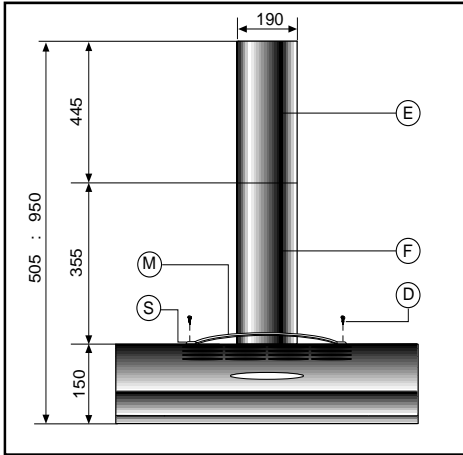

Fig.1
Drill 2 holes on the wall, which correspond to the position (B) of the drawing fig. 1.
Position the glass section complete with supports (V) as indicated in fig. 1 and secure to the hood using the screws provided.
Position the handle (M) and the two right (D) and left (S) supports, as indicated in fig. 1, and secure to the hood using the screws provided.